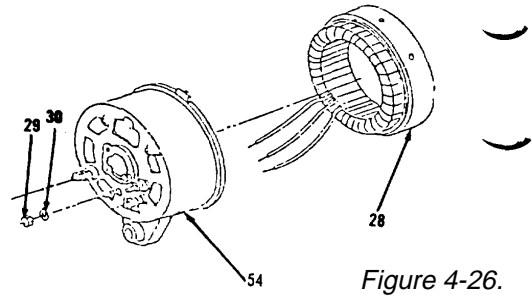
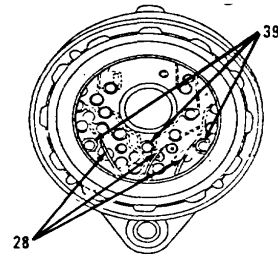

Figure 4-26.
Figure 4-25.
- 9. Position sleeve (37) on end of pin terminal (48) and solder.
- 10. Install insulator (36), washer (35), two lockwashers (34) and nuts (33, Figure 4-26) on terminal stud marked "B+".
- 11. Install two lockwashers (32) and nuts (31) on terminal stud marked "B+".
12. Install lockwasher (30) and nut (29, Figure 4-26) on terminal stud marked "B-".
13. Install stator (28) on frame (54) and align matchmarks made earlier.
14. Position three stator (28) wires on diode assembly (39, Figure 4-25) terminal and solder.